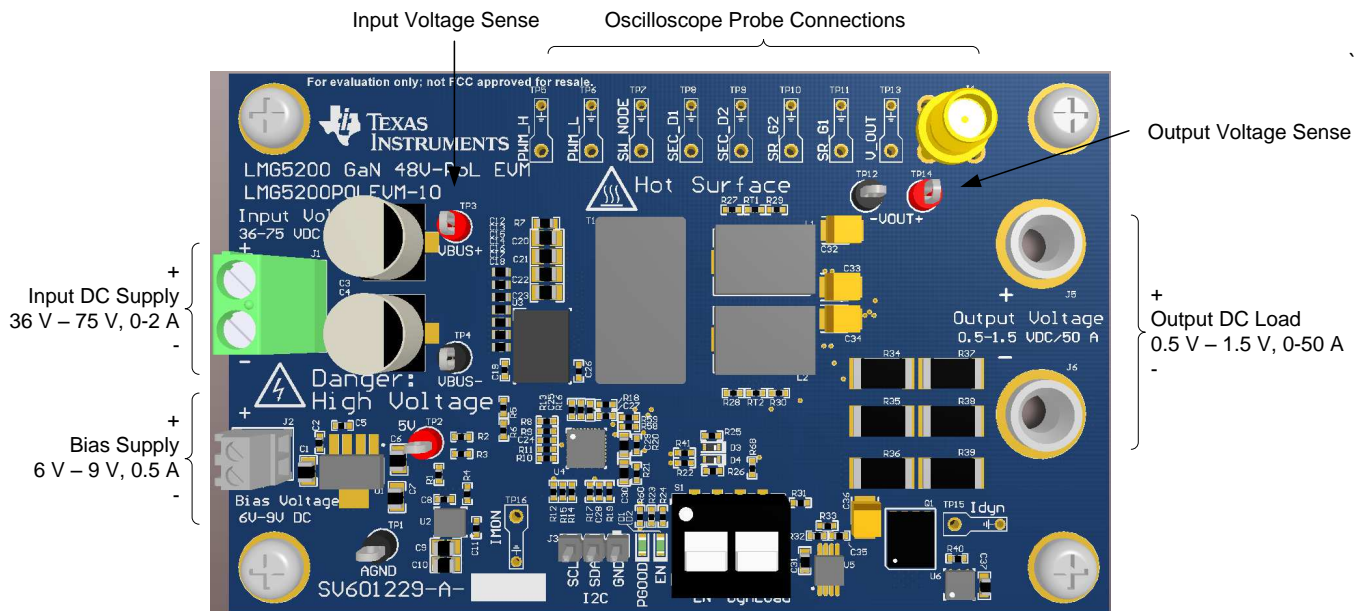

Figure 4. Recommended Connection Points
- **Oscilloscope:** capable of at least 200-MHz operation, using oscilloscope probes with a *pigtail* spring ground clip instead of the standard alligator clip. See Figure 4 for correct usage.
Connect the input and bias supplies and DC electronic load as indicated in Figure 4.
1. Connect the input and output supplies as shown in Figure 4 , but do not power them on yet.
3. Ensure the enable (EN) switch is set to off.